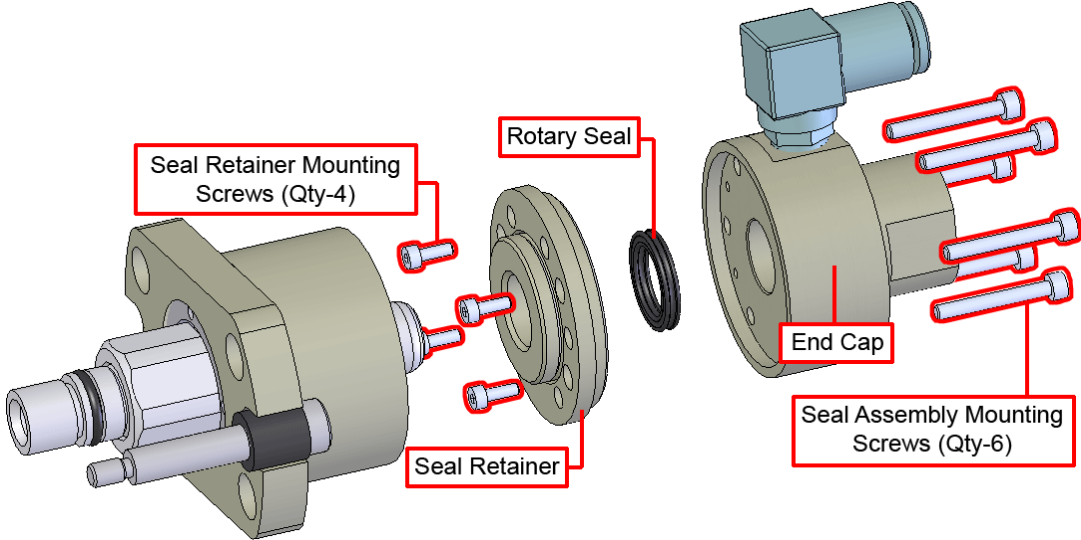

Figure 4-6: Seal Installation
- 4. Carefully pull the seal assembly off of the stage. Figure 4-6 shows an exploded view of the seal assembly.